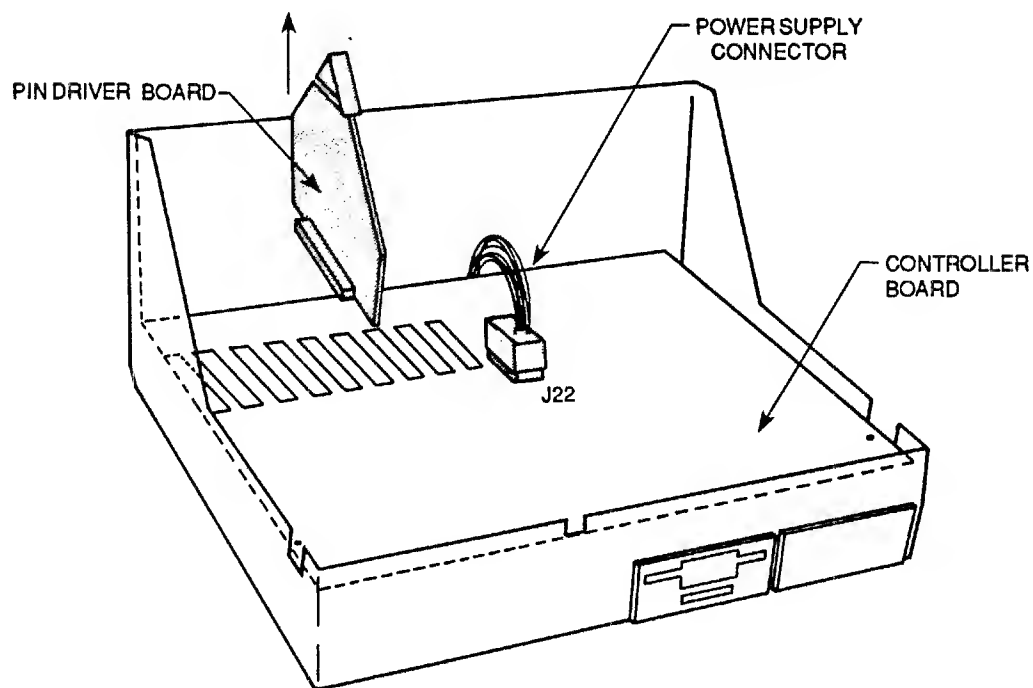

Figure 2-2. Removing the Pin Driver Boards
2. Remove all of the Pin Driver boards, laying them carefully to the side at the anti-static workstation (see figure 2-2). Special care must be taken not to bend the Controller board's connector pins.
1. Remove the power supply connector cable, located at J22 of the Controller board (see figure 2-2). Squeeze the two locking tabs on either side of the connector to release it from J22.